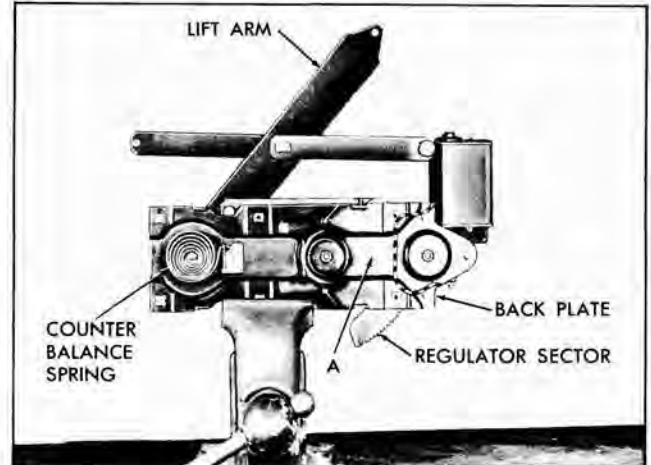

Fig. 3-41 Rear Door Window Regulator
1. Remove electric window regulator assembly from door and/or rear quarter and clamp securely in vise (Fig. 3-41).
2. Drill a 1/4" hole through sector and back plate within area indicated by "A" (Fig. 3-41).
4. Remove motor attaching bolts and remove motor assembly from regulator (Fig. 3-41).